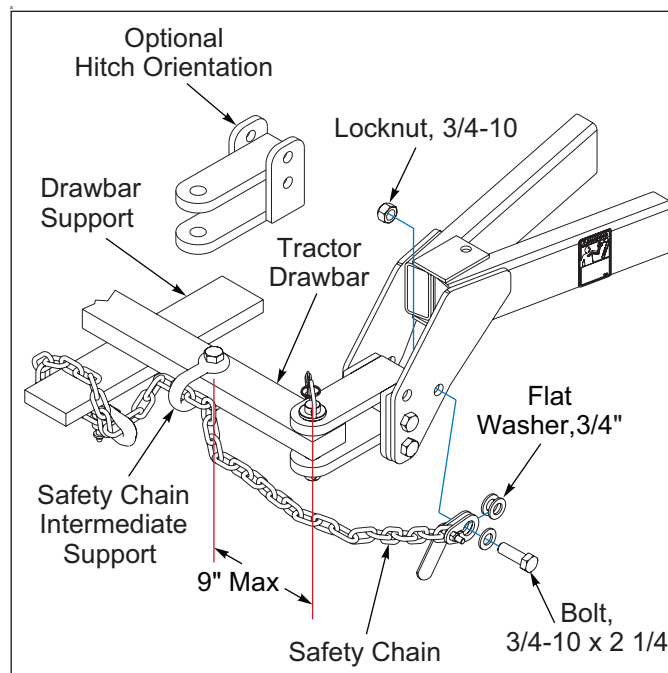

Figure 1-2: Safety Chain
3. Attach the chain to the Tractor Drawbar Support or specified anchor location. Never attach the chain to an intermediate support. Allow only enough slack in the chain to permit turning. The distance from Hitch Pin to attachment point or intermediate support point should not exceed 9 inches. **See Figure 1-2.** If the distance from the Drawbar Pin to either the front or rear chain attachment point exceeds 9 inches, intermediate chain support is required. **See Tractor Operator's Manual.**